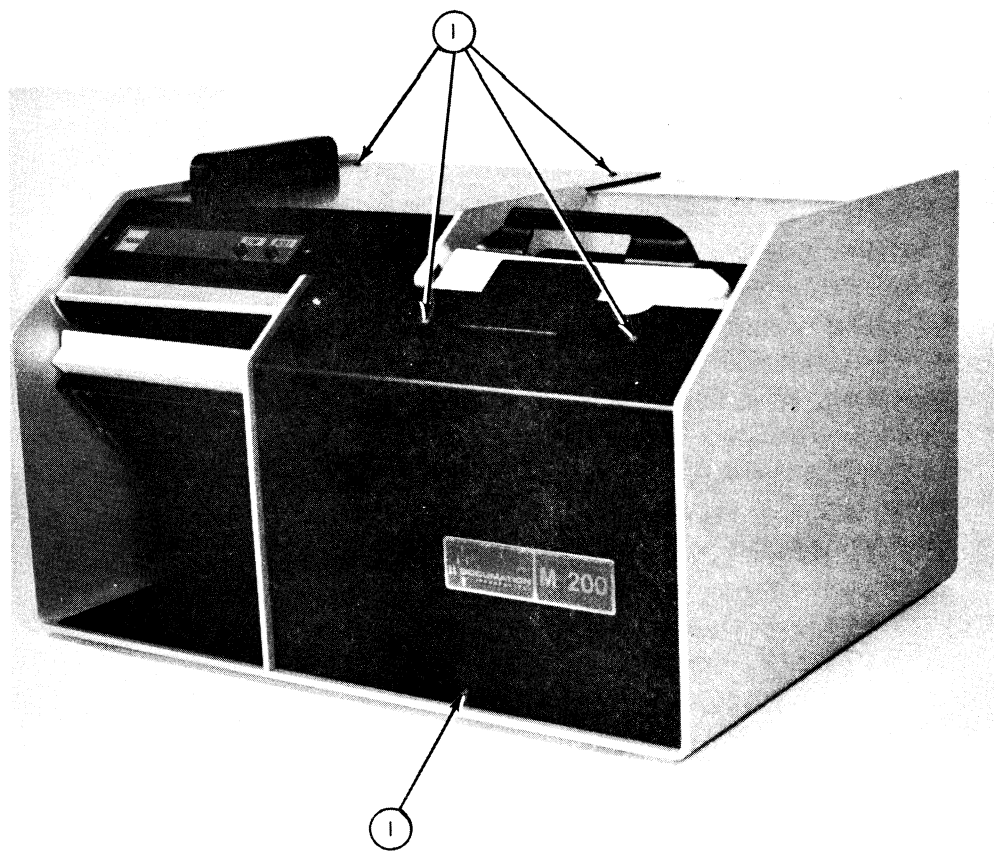

Figure 6-1. Top Cover Removal
- a. Using a 5/64 Allen wrench, remove five screws (1), figure 6-1, which hold the top cover.